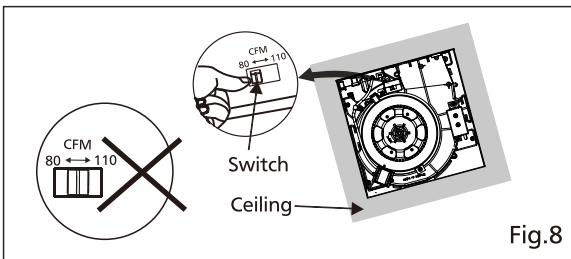

Fig.8
10. Select the air volume speed by adjusting the switch. Factory setting is "80" position; sliding "110" is high airflow position.(Fig.8).